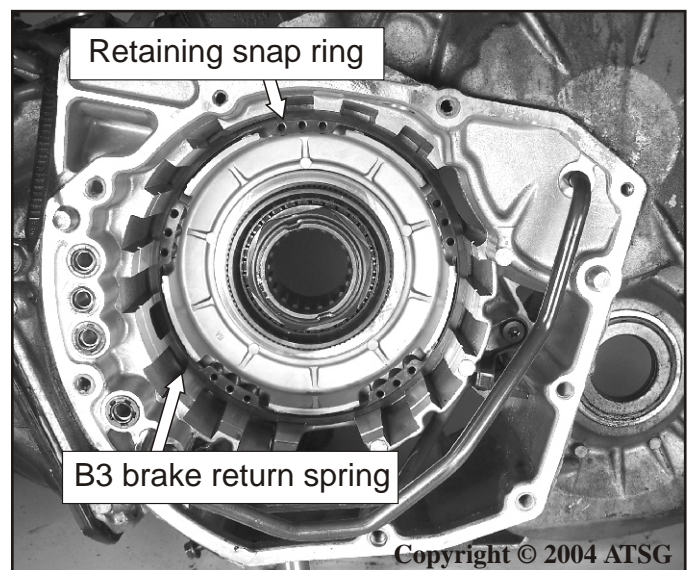

Figure 83
32. Remove the retaining snap ring and B3 piston return spring as shown in Figure 83.